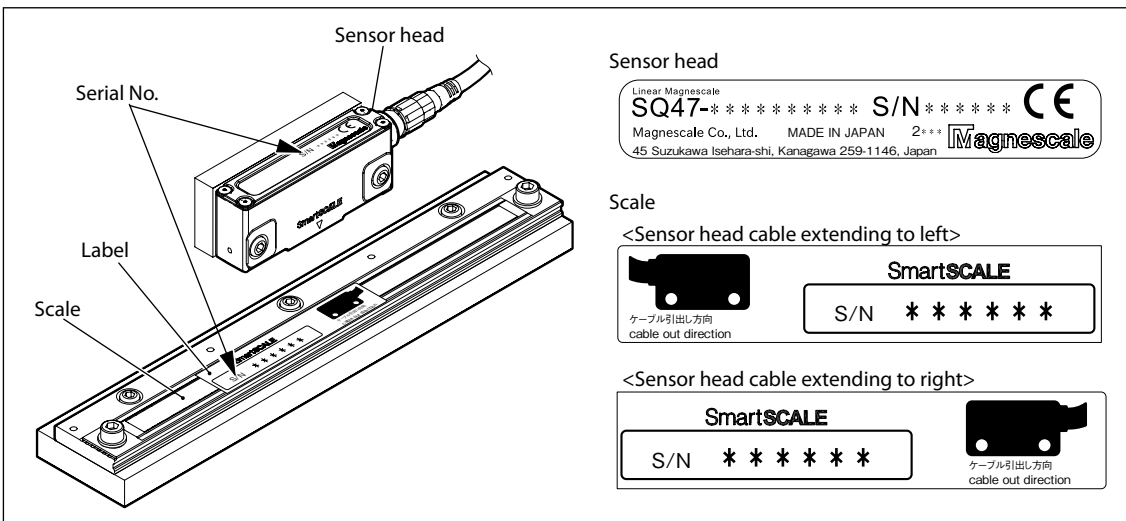

Fig. 3-6
2. Check the label attached to the scale to confirm the sensor head cable extension direction and make sure that the serial No. matches that of the sensor head. (See Fig. 3-6.)